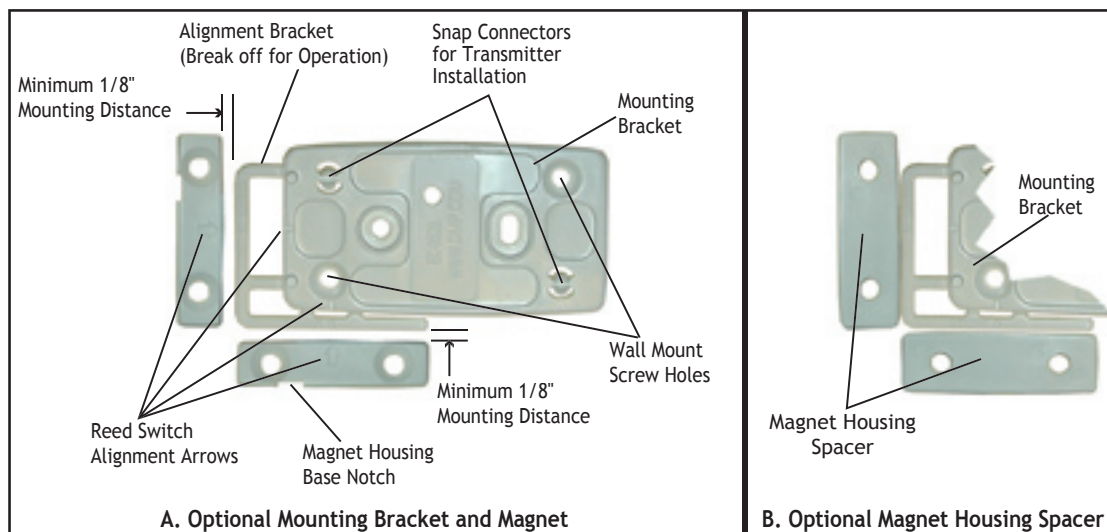

Figure 4: Optional Mounting Bracket and Magnet Base and Spacer Mounting
Only one magnet assembly is required for internal reed switch operation. Depending on the installation, you can use either the end mount internal reed switch or side mount internal reed switch location of the transmitter. For reference, both mounting locations and other mounting information is included in Figure 4. An optional magnet housing spacer is provided for installations where the magnet assembly needs to be raised in order to line up with the reed switches in the transmitter.
**Note:** The magnet housing base must be located a minimum of 1/8" from the alignment bracket. The 1/8" distance is required to ensure the magnet housing and transmitter housing have enough space between them when mounted. When using the magnet spacer, place the spacer next to the alignment bracket. No additional space is required between the spacer and the bracket. See Figure 4 Section B.